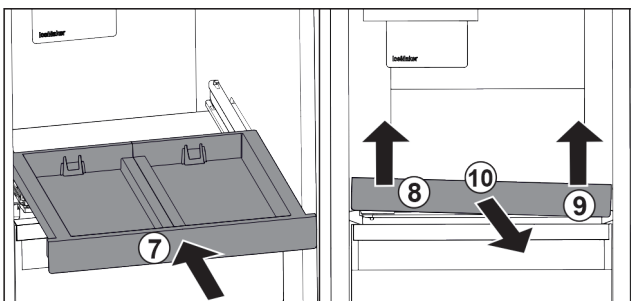

Fig. 32
- ▶ Slide in the pull-out board. Fig. 32 (7)
- ▶ Lift the pull-out board at the front left. Fig. 32 (8)
- ▶ Lift the pull-out board at the front right. Fig. 32 (9)
- ▶ Take out the pull-out board to the front. Fig. 32 (10)